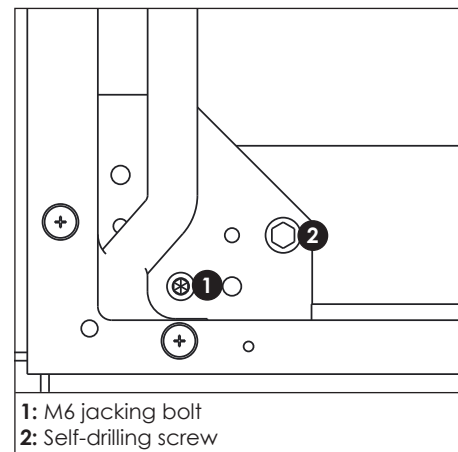

Figure 3: Alternate Panel-to-Tube Attachment
Figure 2 shows standard panel-to-tube attachment. If there is bolt head interference at the standard location, use the attachment pattern shown in **Figure 3**.
3. Use the alternate mounting holes as shown in **Figure 3** to secure a panel if a tube-to-wall mounting bolt head interferes with the standard mounting hardware.